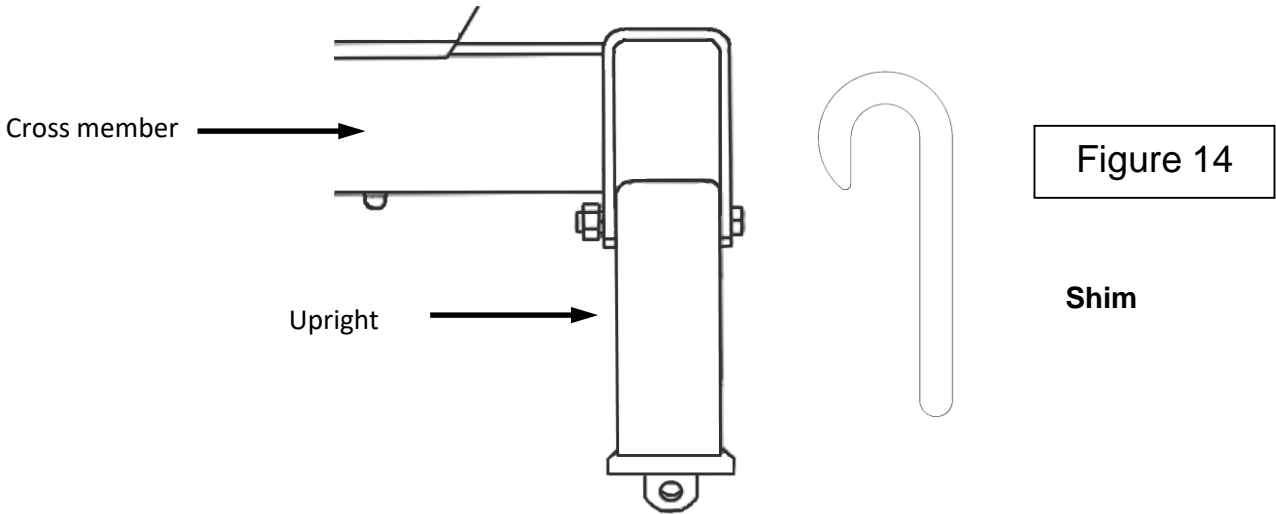

Figure 14
17. Check each rail hitch pin for freedom of movement in the bed rail connection before tightening the 5/8" carriage bolts. Adjust uprights, if necessary, by placing shim 31582 or 30243 between the upright and the cross member to obtain free pin movement. See Figure 14. Shims 31582 & 30243 sold separately.